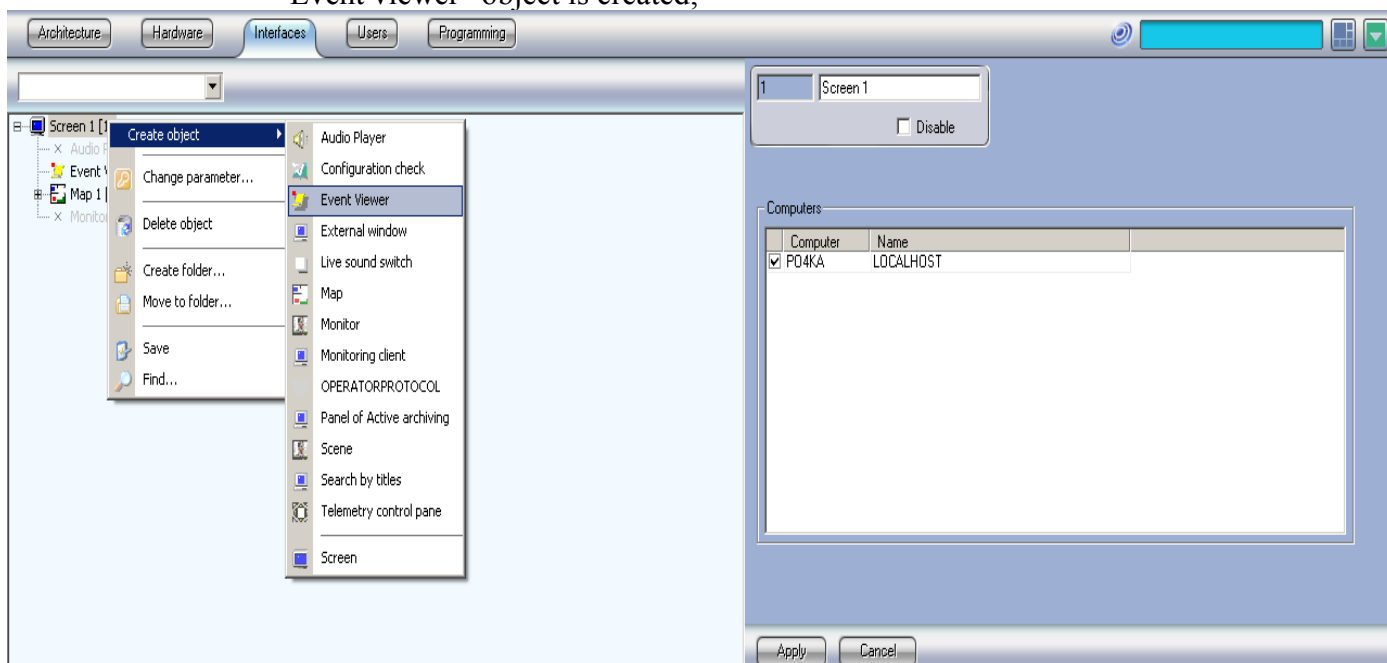

fig. 41
- 1) From menu "System settings → Interfaces → Event viewer" (fig.41) the "Event viewer" object is created;